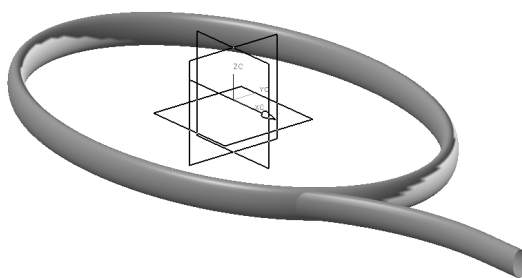

Figure 11-91 The sweep surface created
8. Choose the **OK** button twice; the resulting sweep surface will be created, as shown in Figure 11-91.